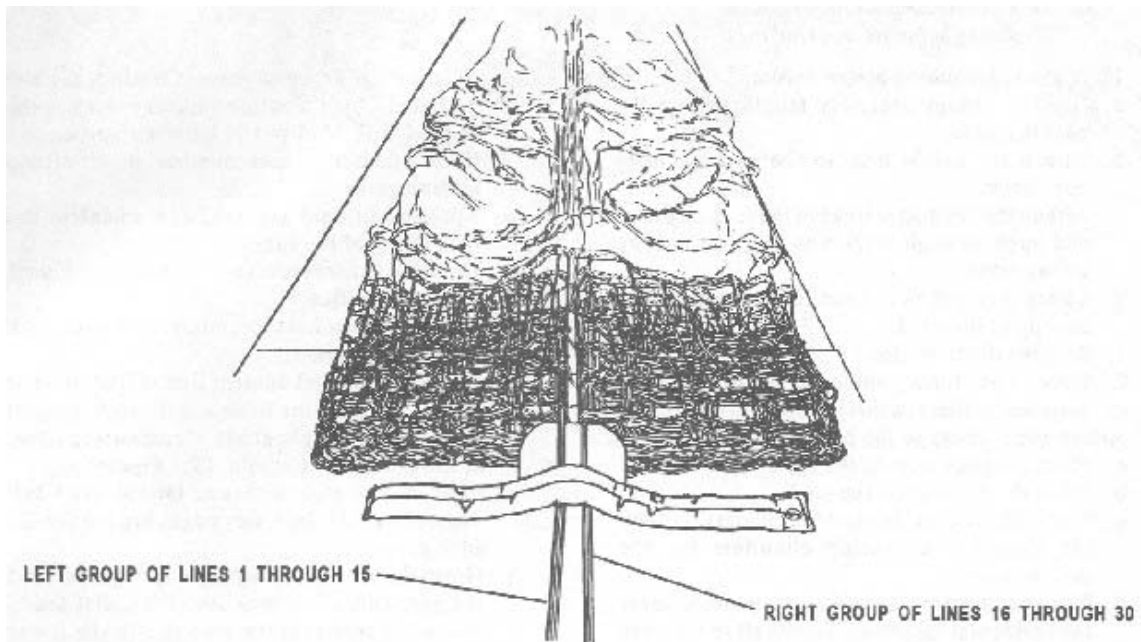

Figure 3-1
4. Flat-fold the canopy gores on the MC1-1B/C, and dress the canopy net. (See Figure 3-1)